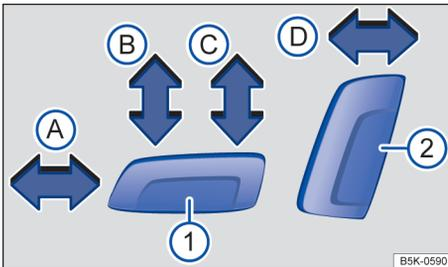

Fig. 66 Driver seat: Electrical controls to move the seat backward or forward, and adjust seat cushion height and backrest angle (if equipped).
Press the switch in the direction of the arrow → **fig. 66**:
- 2 Adjust the backrest angle. Lean forward and turn the adjuster wheel forward or backward. If the vehicle has an electrical control for adjusting the backrest angle, see → **fig. 66** 2.